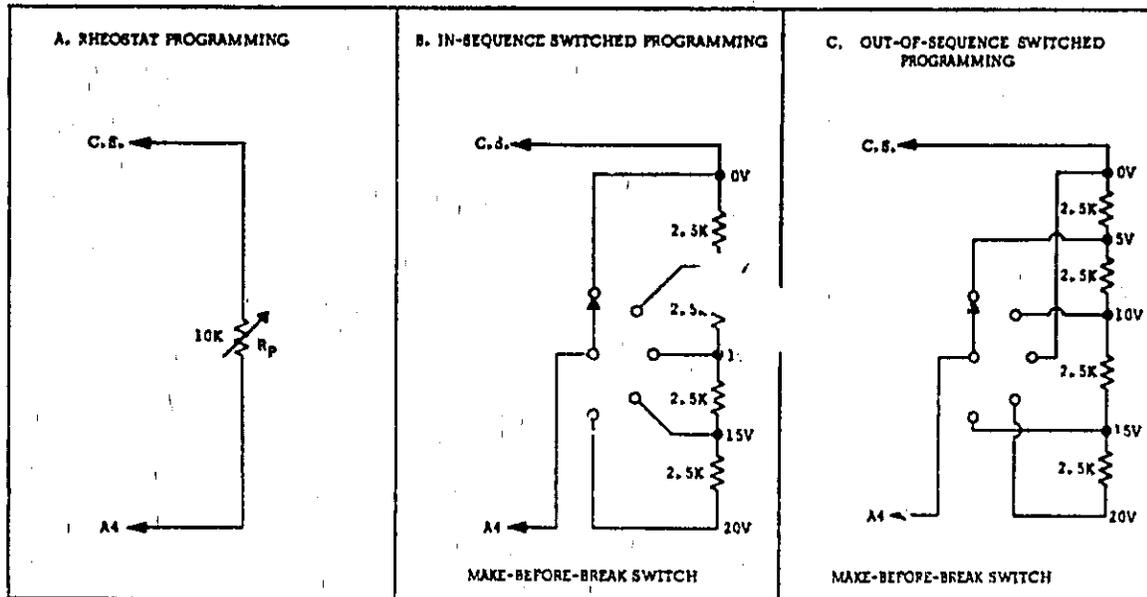
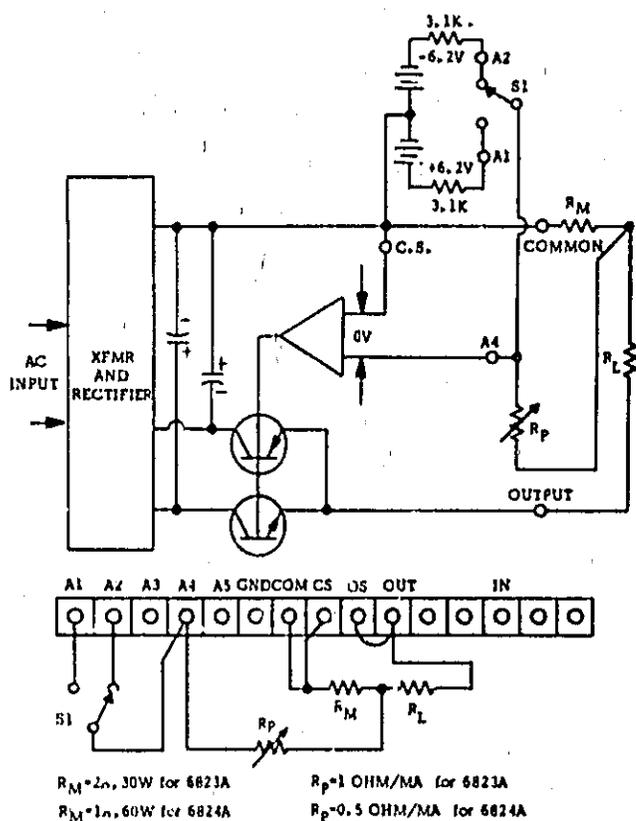

Figure 3-10. Switched Resistor Substitutes
Figure 3-18. Remote Resistance Programming, Bipolar Output (CC)
3-45 If it is desired to achieve accurate programming reproducibility, or if it is necessary to repeatedly set the power supply output to specific voltage values, either of the substitute arrangements suggested by Figure 3-10(B) and 3-10(C) may be employed in place of the rheostat R_p. Suppose, for example, it is decided to set the power supply over the span from 0-20V. If continuous adjustment is required, the best choice would be a 10K rheostat (since the programming coefficient is 500 ohms/volt). But if specific tests must be made at 0, 5, 10, 15, and 20V, the arrangement shown in Figure 3-10(B) should be employed, using a make-before-break switch. If the same voltage values are desired, but not in ascending or descending sequence, the terminals from the resistor string can be connected to the switch in any desired sequence, as suggested by Figure 3-10(C).
3-74 Figure 3-18 shows one method of controlling the output of the PS/A as a remote programmed Constant Current power supply. Switch S_1 causes the output current to be either positive or negative. If it is desired to achieve only a positive or only a negative output current (unipolar output), then S_1 must be eliminated. Terminal A4 is strapped directly to A2 for a positive output, or directly to A1 for a negative output.
3-75 The front panel FINE/ZERO control permits the output current to be adjusted to zero when R_p is set to zero, while the slope of the programming coefficient is adjusted by means of R_{38} (positive output) and R_{39} (negative output). Either of the switched resistance schemes of Figure 3-10 may be substituted for a variable R_p in this or any other Constant Current diagrams which follow. The advantage of the circuit of Figure 3-18 is that the output current is a linear function of the programming resistance; the disadvantage is that a switch must be used in order to accomplish polarity reversing.